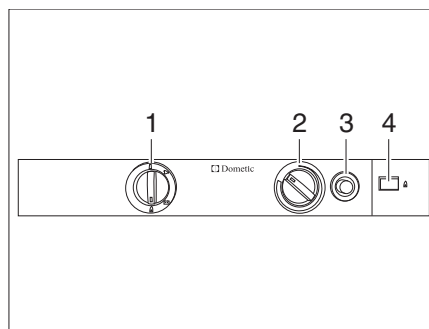

Fig. 351 Operating controls for the refrigerator (Dometic 8 series)
- Set the energy selector switch (Fig. 351,1) to "🔥".
- Press the control knob (Fig. 351,2), turn it to the highest level and hold it down. Wait until gas gets into the burner.
- Press the gas ignition button (Fig. 351,3) and keep it pressed. Ignition will take place automatically.
- Keep gas ignition button (Fig. 351,3) pressed down until the flame indicator (Fig. 351,4) becomes green and then release it.
- Keep the control knob (Fig. 351,2) pressed for another 10 to 15 seconds, then release it.
- Set the energy selector switch (Fig. 351,1) to "⏻".
- Use the control knob (Fig. 351,2) to adjust the refrigerating temperature.